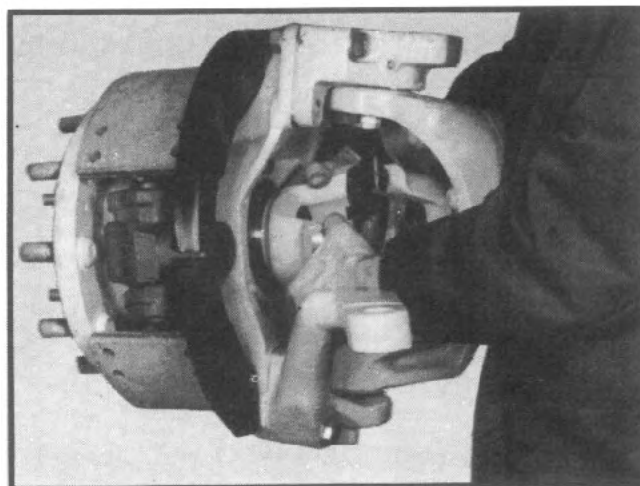

Fig. 37
2. Lubricate the seal and bearing surface of the outer drive yoke and put the yoke in place in the bearing and seal that is in the spindle yoke. (See fig. 37).